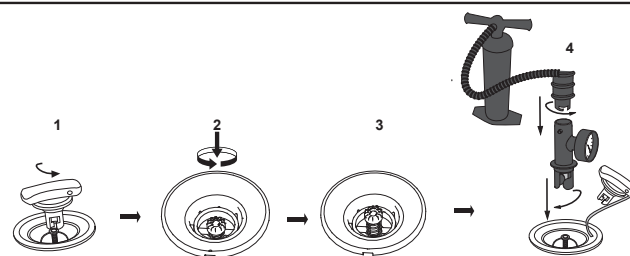

Fig. 2
- Inflate the kayak by unscrewing the cap of the air valve (Fig.2 pos.1). Ensure that the inner spring valve is not depressed. If it is depressed (Fig. 2 pos. 2), press the spring valve and turn counter clockwise so the inner spring valve is in the correct position (Fig.2 pos. 3). Attached the pressure gauge onto the hose and the hose to the inflate position on the high-pressure hand pump. Inflate the kayak to 0.15 bar (2 psi). After inflation, screw the cap of air valve (Fig.2 pos. 4)